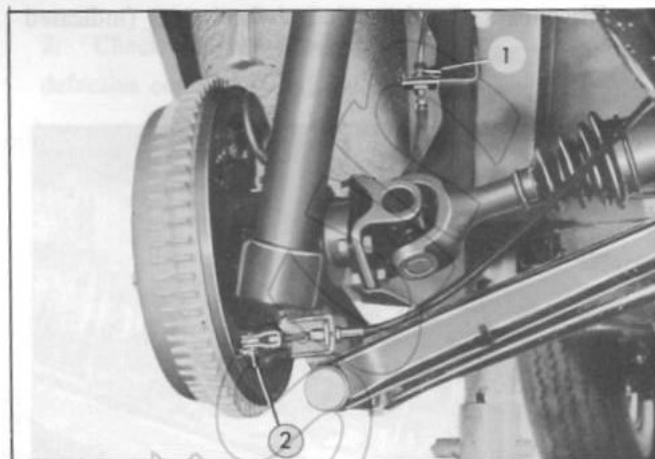

Fig. RA-10 Removing the brake hose and side brake linkage
4. Disconnect the brake line connector (body side) (1) and side brake linkage (2). (Figure RA-10)